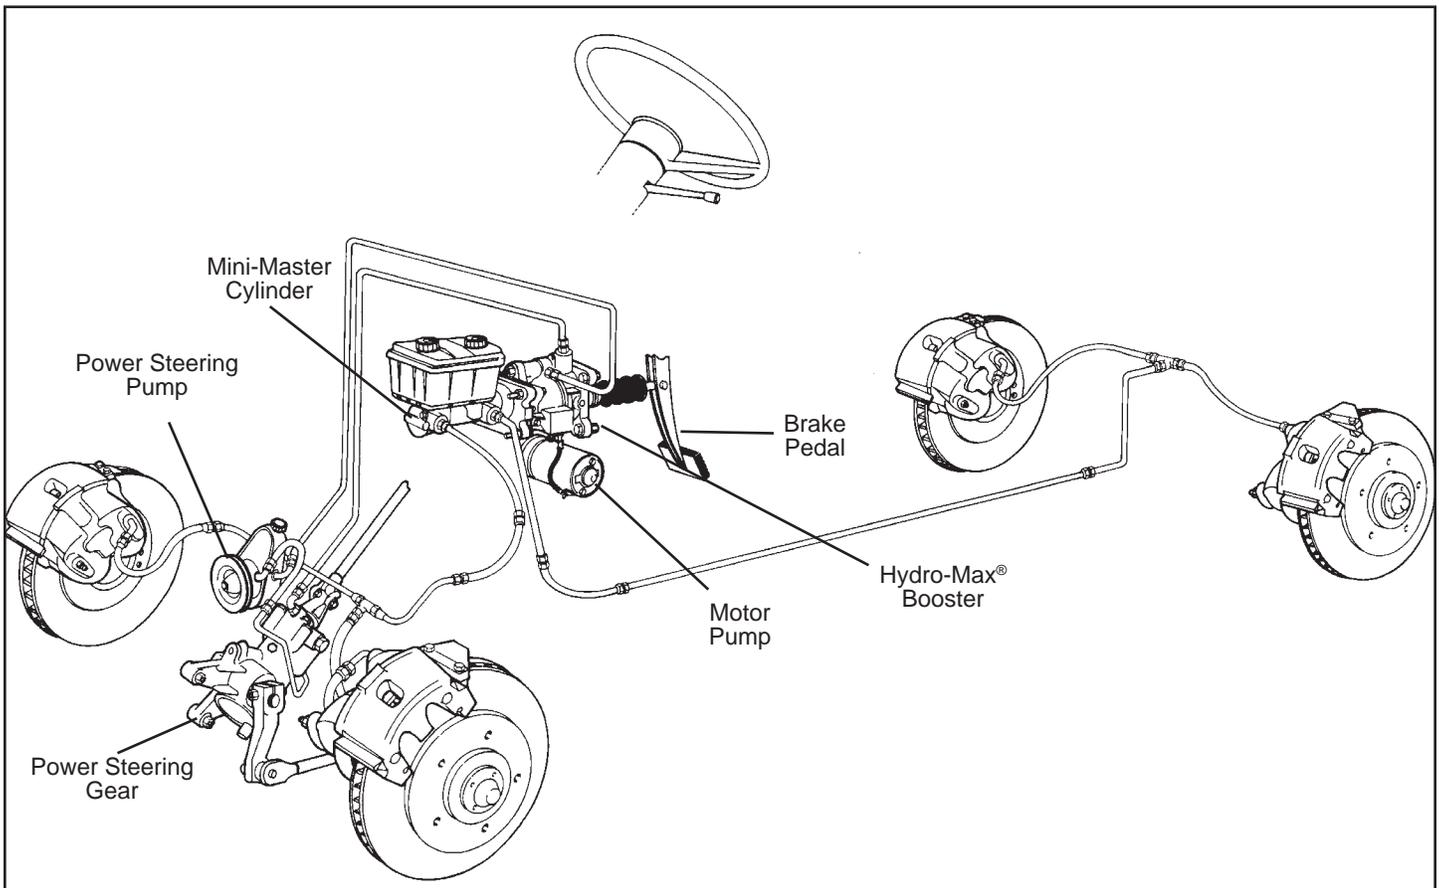

FIGURE 4 - TYPICAL HYDRO-MAX® SYSTEM WITHOUT HYDRAULIC PARKING BRAKES
10. For vehicles **WITHOUT** hydraulic spring parking brakes (shown in Figure 4), start the vehicle and let run for a period of time to bleed air from the system. This type of system will "self bleed" air back into the pump reservoir.